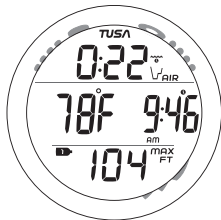

Fig. 75 - NO DECO ALT 1
**NORM No Deco ALT 1**, information includes (Fig. 75) -